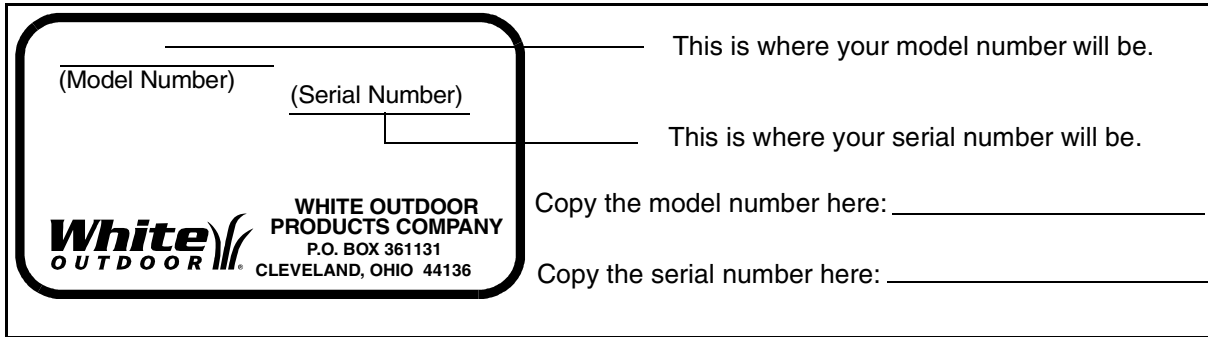

Figure 1
- Every lawn tractor has a model plate. You can locate it by pivoting the seat forward and looking under the seat at the seat pivot bracket. See Figure 1